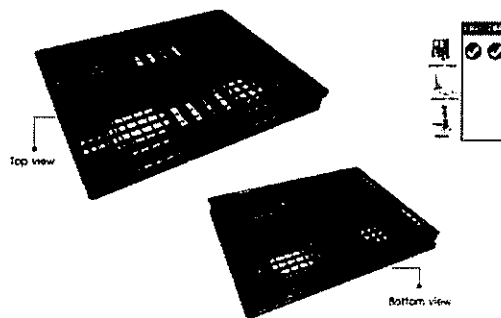

Figure 21: Example of Plastic Pallet that can be used on all four sides*
- 5.7 Plastic Pallet with all sides being similar and can be used on all sides. The width must be no less than 1 meter and must be able to support greater than or equal to 4500 kilograms with a carrying capacity greater than or equal to 1,500 kilograms while moving (example in Figure 21) (5 sets)